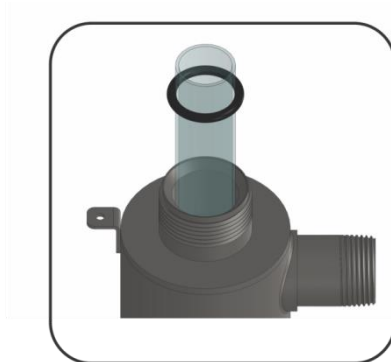

Figure 4. Quartz Sleeve Installation
Step 9: You can now gently remove the quartz sleeve from its packaging being VERY careful not to touch the length with your hands. The use of cotton gloves (not included) is recommended for this procedure as oils from our hands can leave residue on the sleeve and lamp which can ultimately block the UV light from getting to the water. In the package, you will find a lubricated o-ring. Place the o-ring over the open-end of the sleeve as shown in Figure 4.